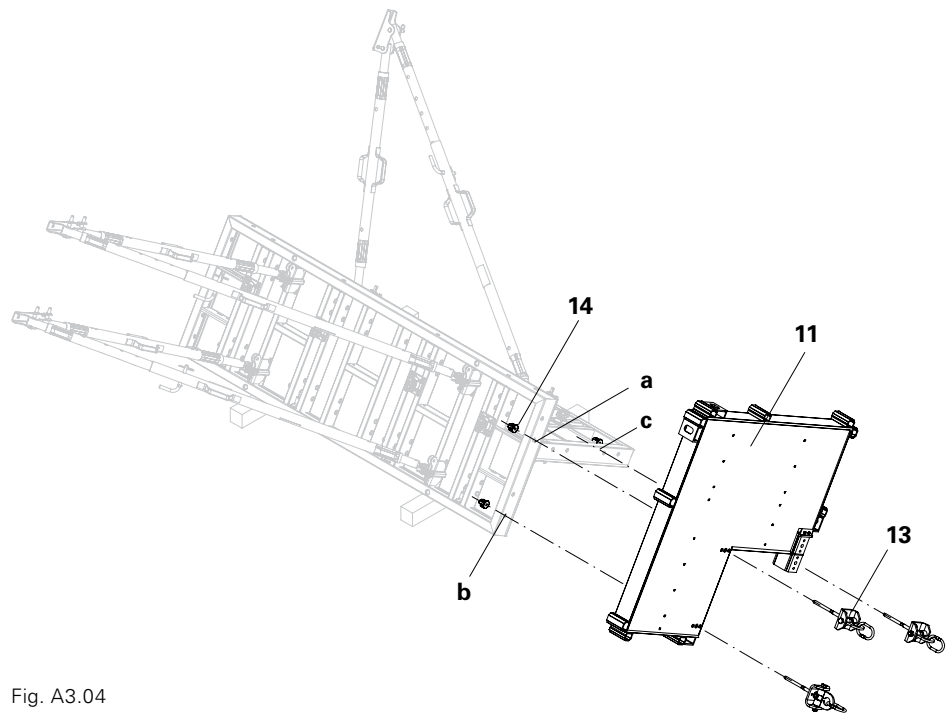

Fig. A3.04
1. Remove Cam Nuts (14) from the Crane Eyes (13).
2. Place platform (11) in an upright position by hand on the formwork half.
5. Align Telescopic Girder (16) to drilled hole c and mount third crane eye. The extension length of the Telescopic Girder is based on the column cross-section. (Fig. A3.04)